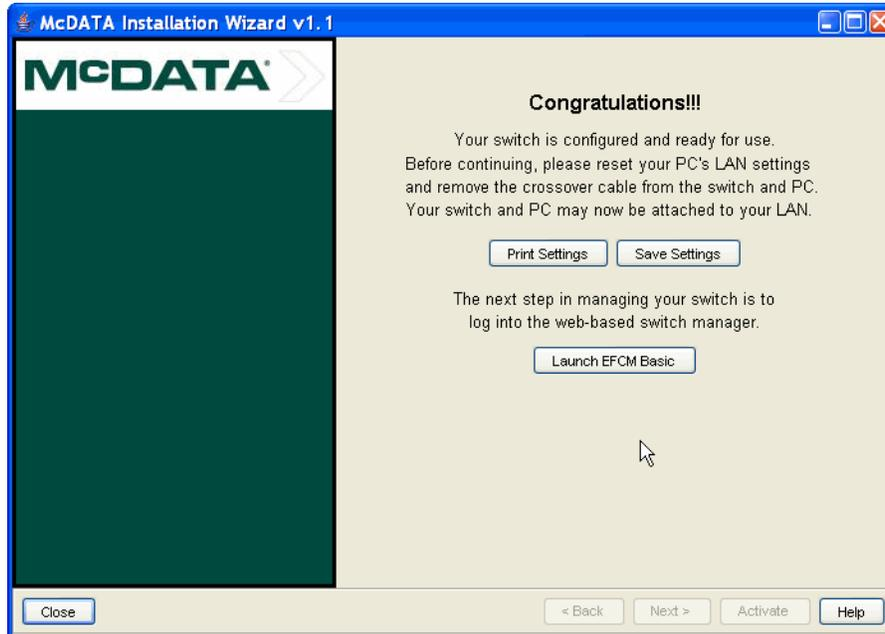

Figure 23 SANplicity wizard completion
8. Once finalized, the window shown in Figure 23 will appear.